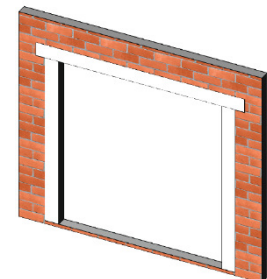

Figure 35:
3. Finally, at the head, embed the flashing into the sealant on the mounting flange and fasten into place. The flashing paper should be cut sufficiently long enough to extend past the flashing paper at each jamb by at least 3 in (Figure 35).